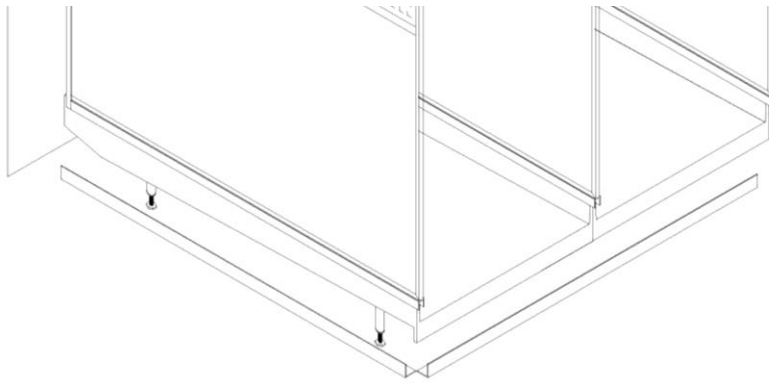

Fig. 3
2. Place aluminum angle supports along chalk lines to determine proper fitment. Some trimming of aluminum angle supports using a 4 1/2" Angle Grinder w/Abrasive Cutoff Wheel may be necessary to achieve proper fitment, depending on individual application. See Fig. 3.